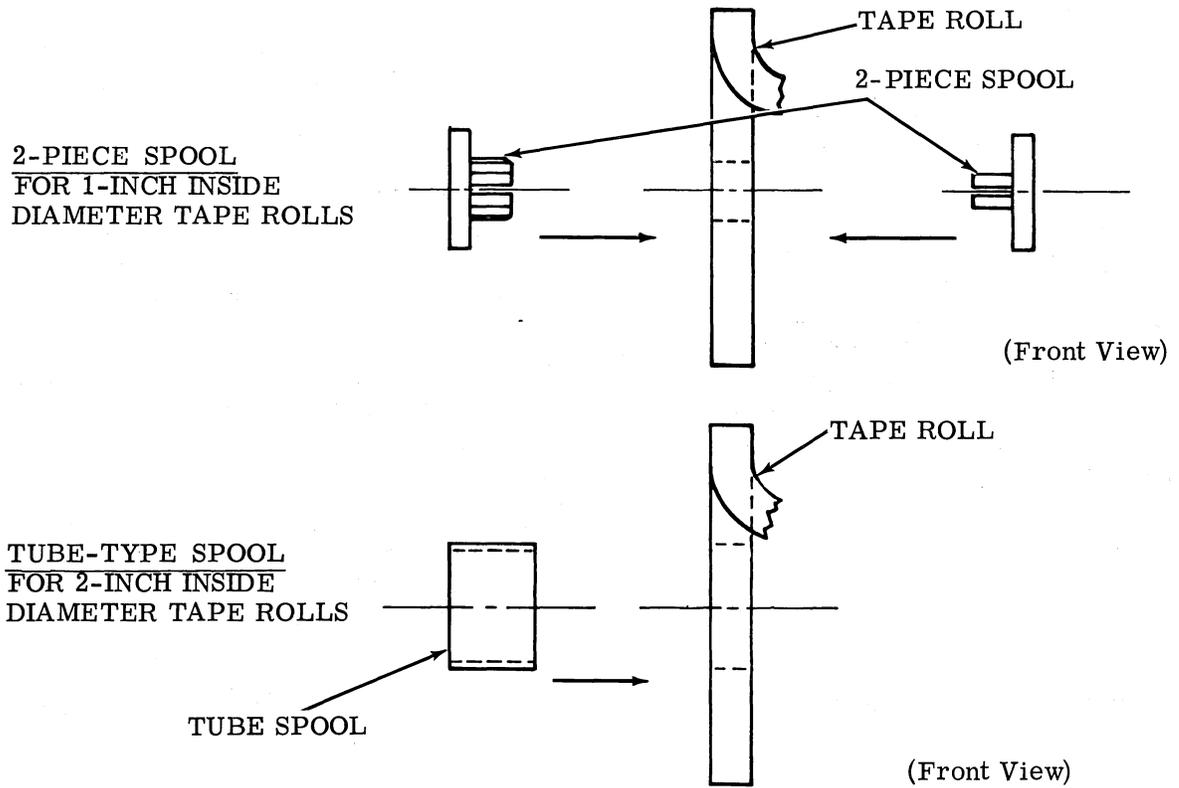

Figure 14 - Tape Roll and Tape Spool Assembly
7.02 Figure 14 illustrates the proper installation of a tape spool in a tape roll.
7.03 Figure 14 illustrates the chad box installation.